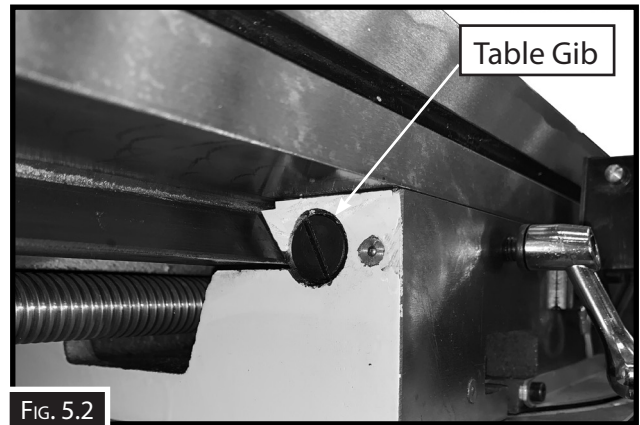

FIG. 5.2
4. Replace the oil drain plug and remove the oil filler plug, and fill the gearbox with oil until the oil level reaches the middle of the oil fluid lever indicator. (Fig. 5.2)